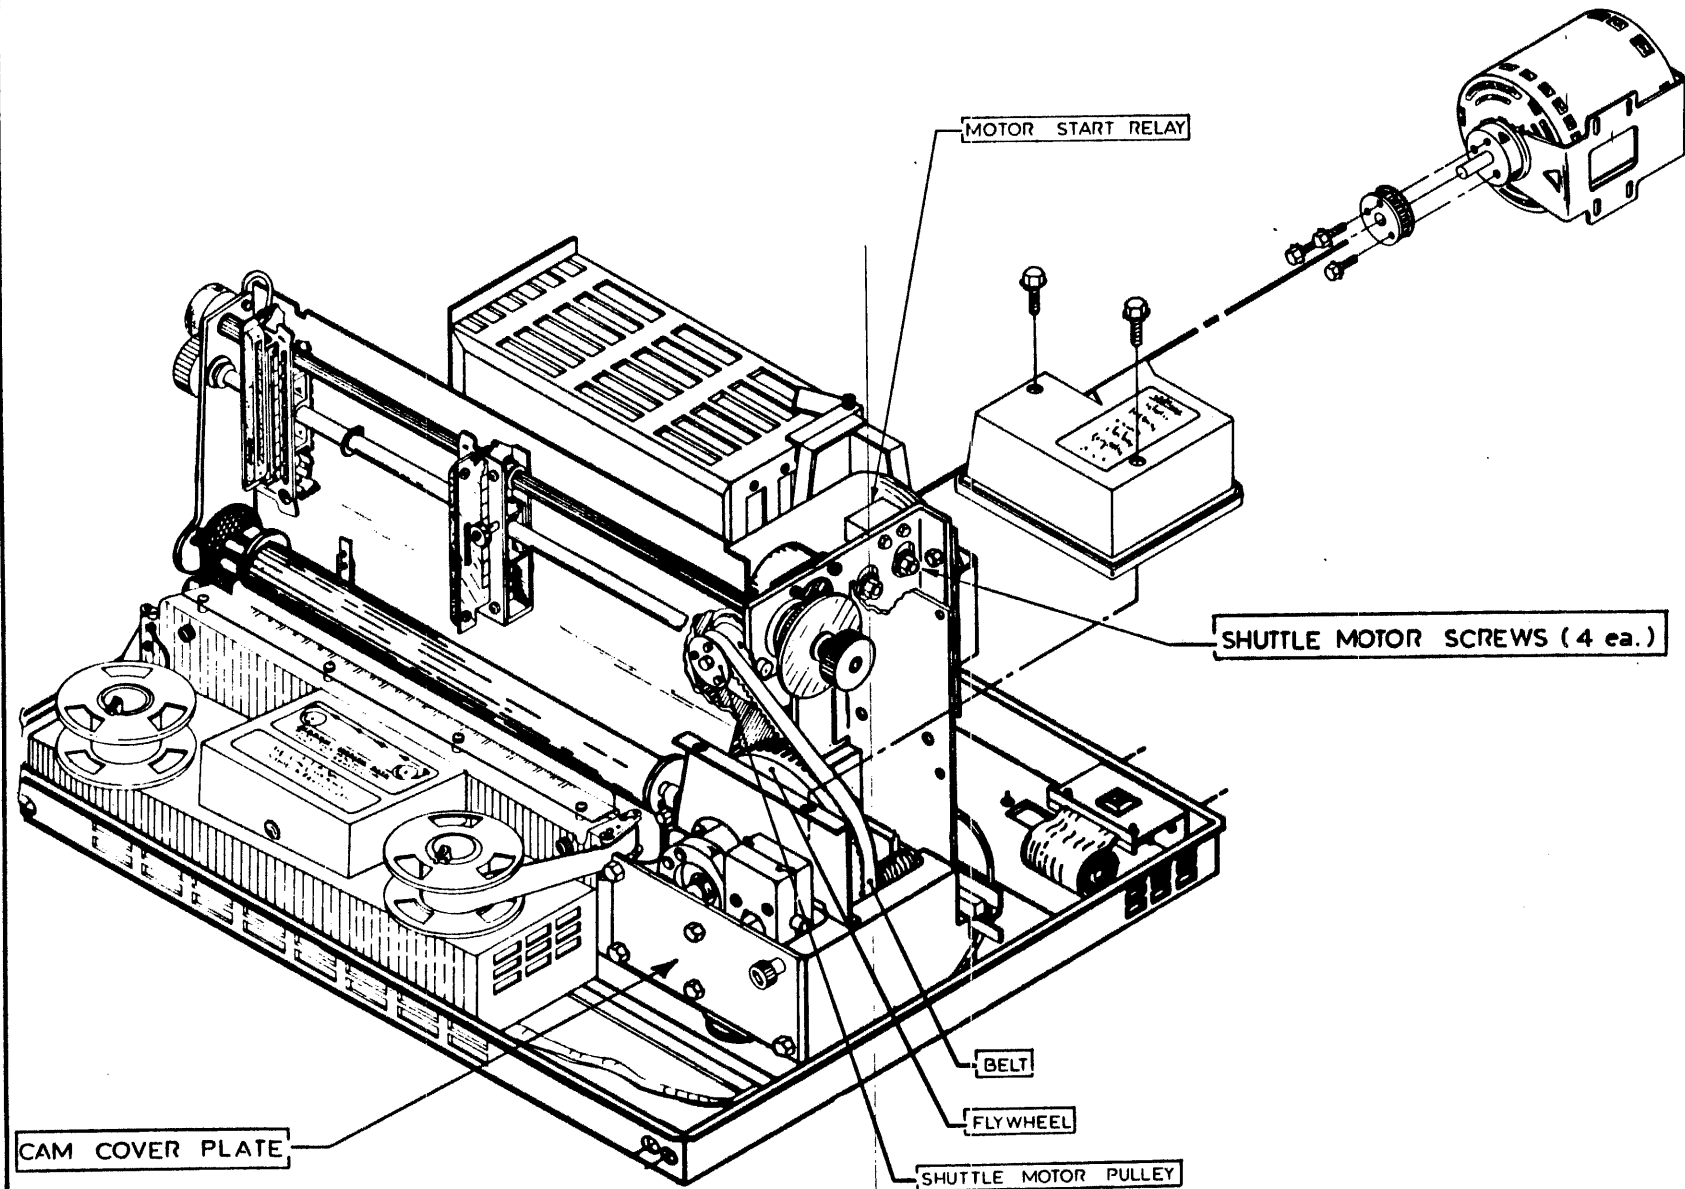

Figure 97 Replacing the Shuttle Motor and Pulley
- d. Loosen the four screws that hold the Shuttle Motor to its mount, permitting the motor to lower to the bottom of the screw slots (**Figure 97**).
- a. Loosen the screw behind the MPU arm only slightly (**Figure 97**) so the arm does not swing freely but can be manually pivoted through a vertical arc with some pressure applied.